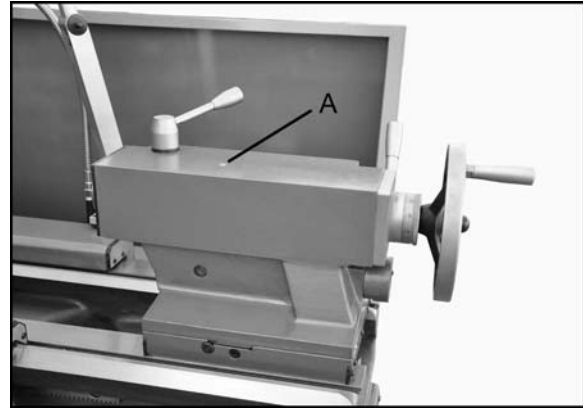

Figure 13
7. **Tailstock** – Daily lubricate one ball oiler (A, Figure 13) on top of tailstock with SAE 20W.